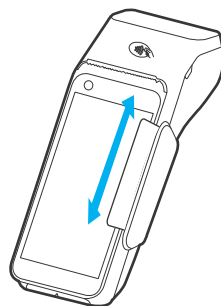

Figure 12 Using Magnetic Stripe Card
- A magnetic card reader built into the device for performing debit or credit card transactions. The card can be swiped from either direction. To ensure a proper read of the magnetic swipe card, insert the magnetic card from the side of the device as shown in Figure 12.
- 2 To ensure a proper read of the magnetic swipe card, insert the magnetic card from the side of the device, as shown in Figure 12.